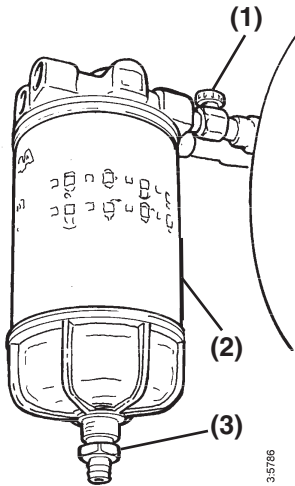

Figure 14
1. Make sure the fuel tank cock (Figure 14, (1)) is closed.
2. Loosen the drain plug (Figure 14, (3)) at the bottom of the fuel filter / water separator and drain off any water or dirt.
3. Turn the filter container (Figure 14, (2)) counterclockwise to remove.
7. Open the fuel tank cock (Figure 14, (1)).